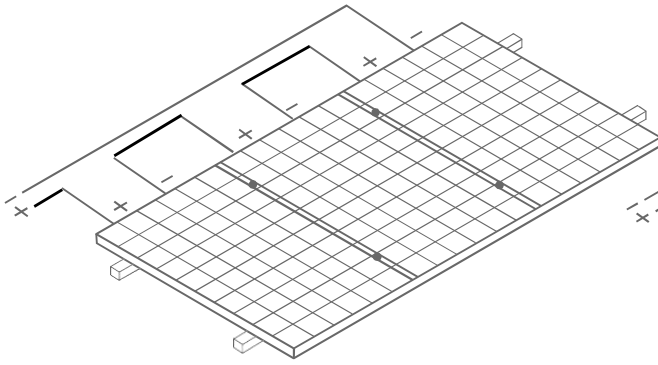

Figure 8 Connection in Series
- It is not allowed to use the Modules in different models in the same solar photovoltaic system. When the Modules are connected in series, the voltage of every string shall not be higher than the maximum voltage of the system (as shown in Figure 8). Reference equation of the maximum number of the Modules in serial connection: maximum system voltage of the module/ (1.25* open-circuit voltage).